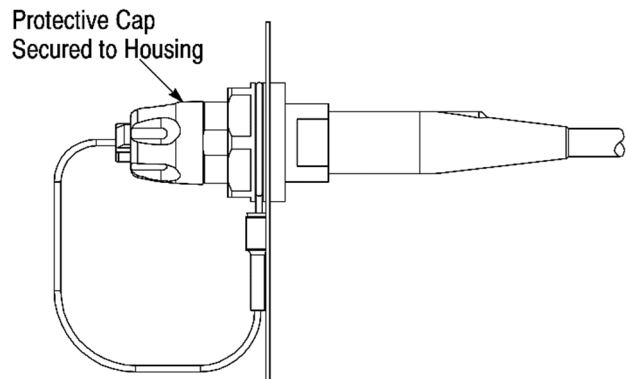

Figure 16
2. Install the connector through the back of the panel so that the O-ring on the shoulder of the D-hole housing is flat against the front of the panel. See Figure 16, Detail A.
3. Thread the panel nut onto the D-hole housing. See Figure 16, Detail A. Tighten the panel nut to a torque between 20 and 30 N·m. The O-ring should now be compressed.
4. Thread the protective cap onto the housing. Hand-tighten the protective cap. See Figure 16, Detail B.